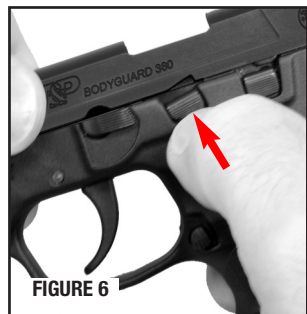

FIGURE 6
- Lock the slide in the open position by allowing the slide to move slightly forward from the rearmost position while pressing upward on the slide stop (FIGURE 6).